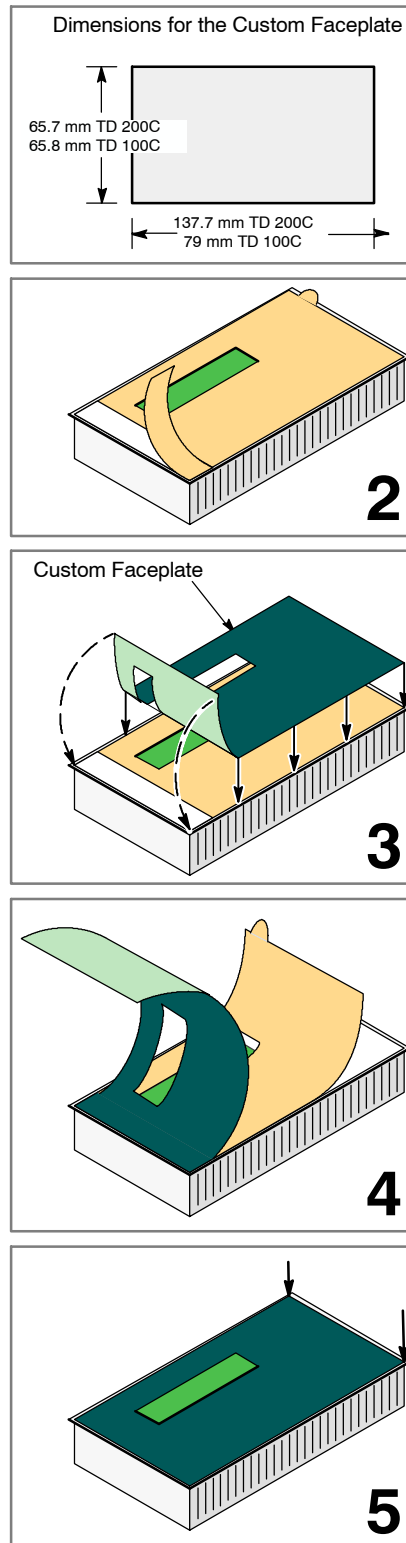

Figure 2-8 Installing a Custom Faceplate on a TD Device
The upper diagram of Figure 2-8 shows the dimensions for the faceplate of the TD devices. Blank faceplate material is available in two sizes:
2. As shown in Figure 2-8, remove the strip of protective paper on the left side of the TD 200C to expose a strip of the adhesive. For the TD 100C, this strip is on the right side of the device.
5. Carefully position the faceplate onto the TD device. Firmly press the faceplate onto the adhesive as shown in Figure 2-8, taking care to remove any air bubbles that may have been trapped underneath.